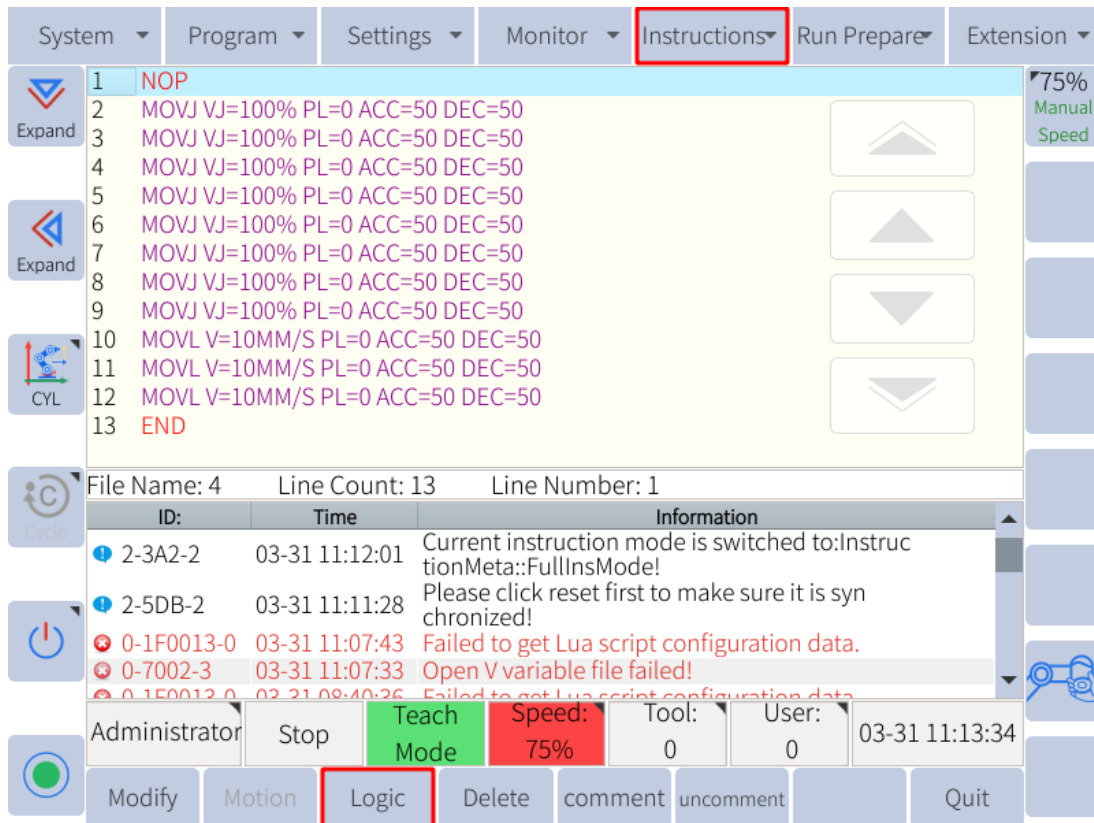

Figure 6-36 : Inserting other instructions
- Press “Instruction” under the main menu (or “Custom” in the submenu area) to select the instruction to be inserted (see **Figure 6-36**)